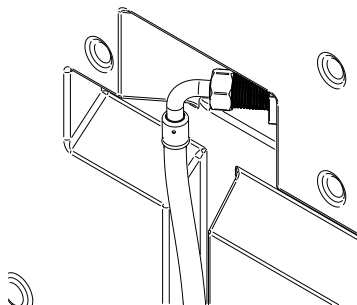

Fig. 6
- 4.12 **Cold mains feed connection:** The connection to the cold water mains inlet is made using the 15 mm compression flexible hose supplied. Ensure the rubber sealing washer supplied with the hose is installed when the hose is fitted. When tightening ensure the fill valve within the tank is not rotated. If the valve is rotated it may not function correctly with the risk of flooding. The hose is made water tight with a sealing washer on assembly, nip tight to 4 to 5 Nm for water tight seal. **(Do not overtighten)**. See Fig. 6.